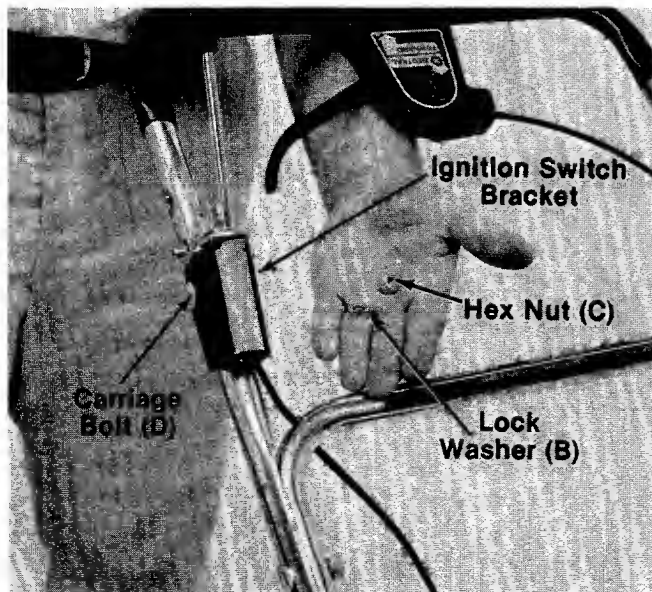

FIGURE 12.
20. Place ignition switch bracket in position on right side of upper handle as shown in figure 12. Secure with carriage bolt (D), lock washer (B) and hex nut (C).